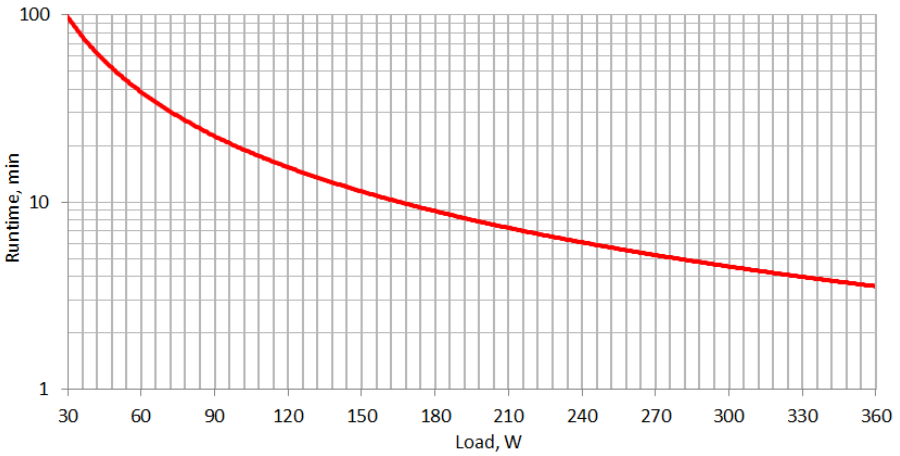

Figure 4. Runtime graph INFOPDU600
4. Check whether the discharge time corresponds to the values given in figures 4 to 10. If the discharge time decreases by more than 50%, replace the batteries.